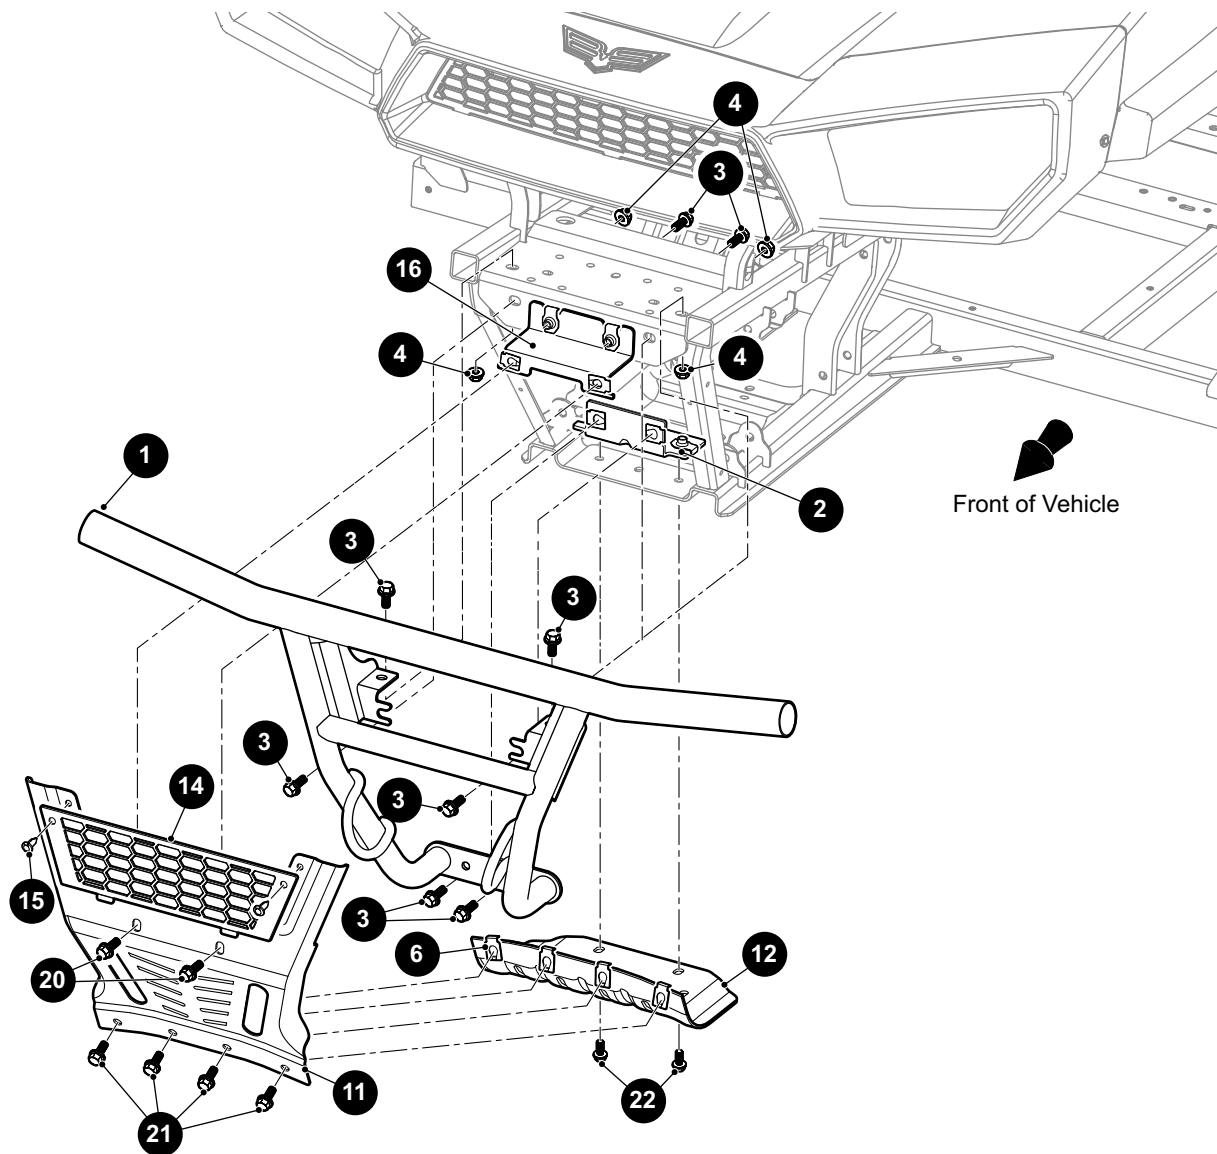

Fig. 4 Premium Brush Guard
1. Remove the two bolts (20) that secure the upper shield (11) to the shield mounting bracket (16) (See Fig. 4).
2. Remove the four bolts (21) that secure the upper shield (11) to the lower shield (12). Remove the upper shield (11).
3. The grill (14) can be removed from the upper shield by removing two plastic rivets (15).
4. Remove the two bolts (22) that secure the lower shield (12) to the frame. Remove the lower shield (12).
5. Remove the bolts (3) and nuts (4) that secure the brush guard (1) to the bracket (2).
6. Remove the bolts (3) and nuts (4) that secure the brush guard (1) to the frame.